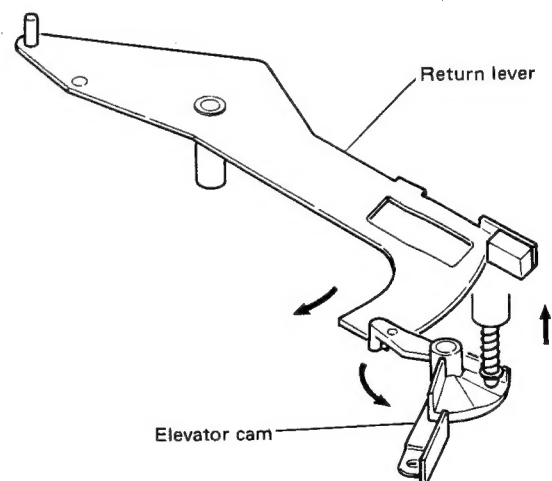

Fig. 5
1. When the main gear starts to rotate at the end of playing, the return lever rotates under the action of the main gear cam to press the elevator cam. The upward movement of the elevator cam is directly converted into movement of the elevator, lifting up the tonearm. (Fig. 5)